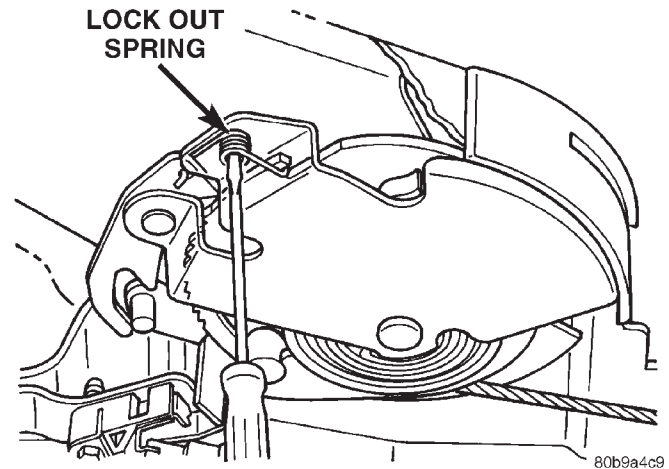

Fig. 48 Lock Out Spring
- (4) Have an assistant pry down the lock out spring through the hole in the side of the park brake lever (Fig. 48) with a small screw driver. Then slowly release the front cable.